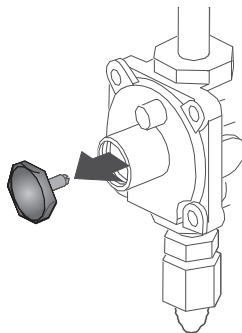

Figure 6
- 3** Unscrew the regulator cap with a wrench (see Figure 6).